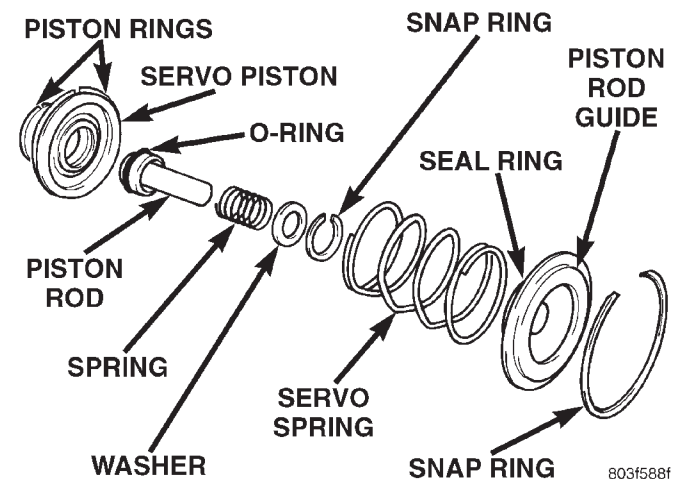

Fig. 144 Front Servo
- (1) Remove seal ring from rod guide (Fig. 144).
- (2) Remove small snap ring from servo piston rod. Then remove piston rod, spring and washer from piston.
- (3) Remove and discard servo component O-ring and seal rings.
- (1) Lubricate new O-ring and seal rings with petroleum jelly and install them on piston, guide and rod.
- (2) Install rod in piston. Install spring and washer on rod. Compress spring and install snap ring (Fig. 144).
- (3) Set servo components aside for installation during transmission reassembly.